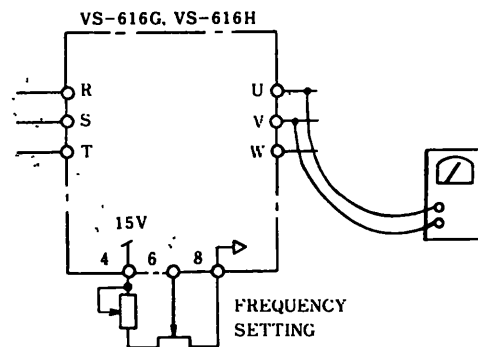

Fig. 10.4 Output Voltage at No-load
- (1) When stop signals are on.
- (2) While a RUN signal is on, and the frequency setting signal is zero.
- (3) While an external base block signal is on.
- (4) While base blocking is turned on by a protection function. This voltage is generated by the leak current of the turned off inverter transistors, and becomes zero as soon as the motor is connected (Fig. 10.4).